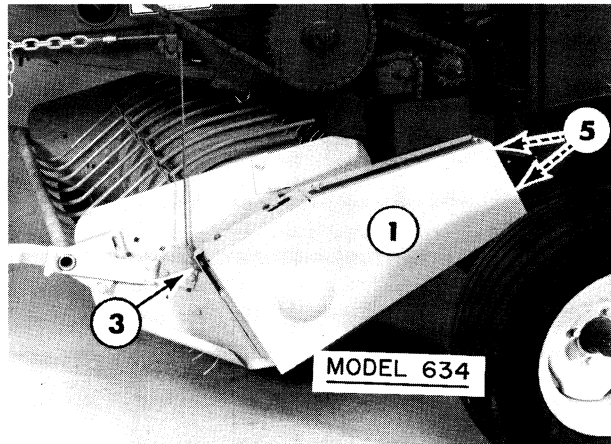
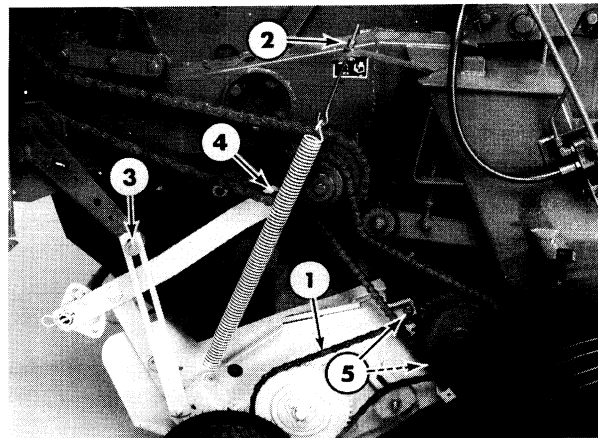

Figure 6-2
Figure 6-3
1. Remove the shield and drive chain, 1, from the left-hand side of the baler. See Figures 6-2 and 6-3.
2. Loosen and remove the flotation springs from each side of the baler at 2, Figure 6-3.
3. Lower the pickup to field operating position. Disconnect the lift cable at 3, Figure 6-2, on the Model 634. On larger models, disconnect the lift link at 3, Figure 6-3, and the wind guard link at 4. With a floor jack, support the rear of the pickup. Loosen and remove the cap screws at 5, Figures 6-2 and 6-3. The pickup can now be removed from the baler.